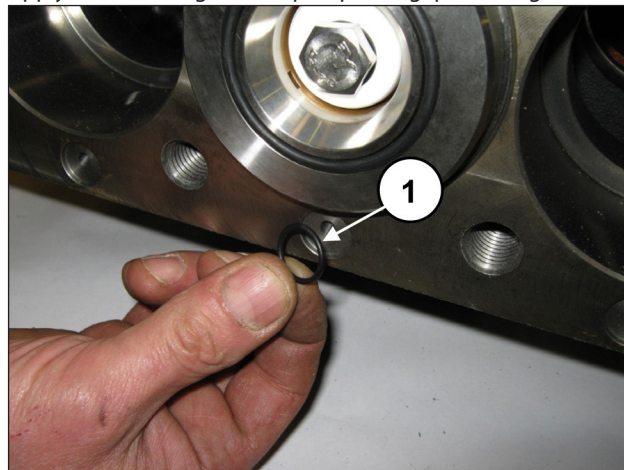

Fig. 128
Apply 6 front O-rings on the pump casing (pos. ①, Fig. 128).